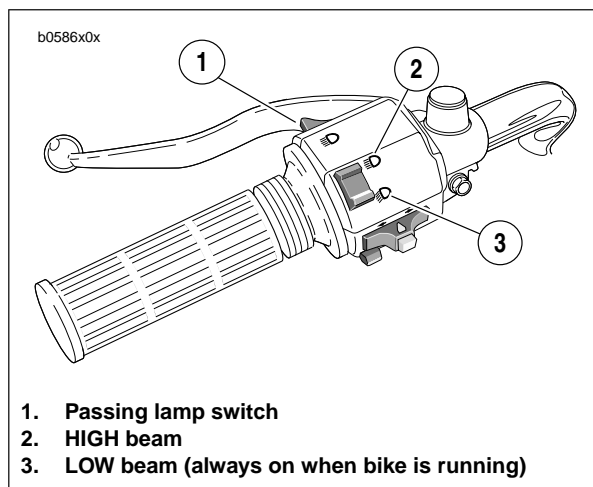

Figure 7-48. Headlight Controls
9. See Figure 7-48. Check headlight for proper operation. If operation fails, reread procedure and verify that all steps were performed.
- b. Check headlight LOW (3) and HIGH beam (2) settings.
- c. Set headlight to LOW beam. Press passing lamp switch (1). Headlight should flash HIGH beam for as long as the switch is pressed.